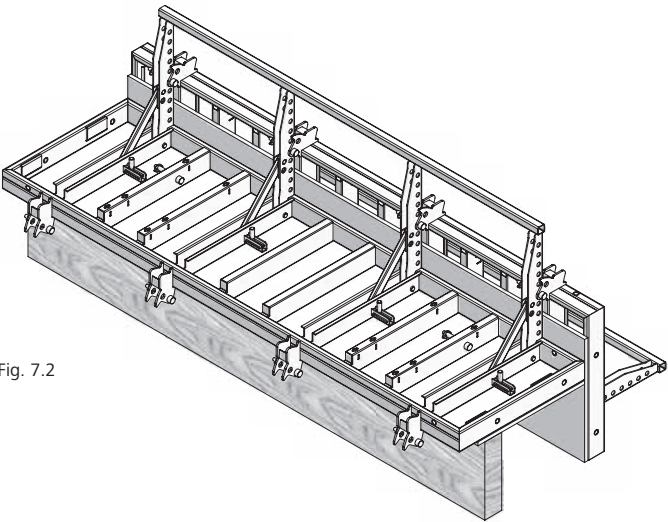

Fig. 7.2
- 2. As for the first and second column panels (see page CF-6), now assemble the third and the fourth column panels to form a panel unit. However, no brace frames will be attached to this unit (Fig. 7.2).